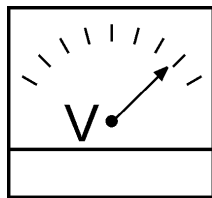

Figure 33. Voltmeter
9. The generator's AC-voltmeter (Figure 33) will display the generator's output in **VOLTS**.